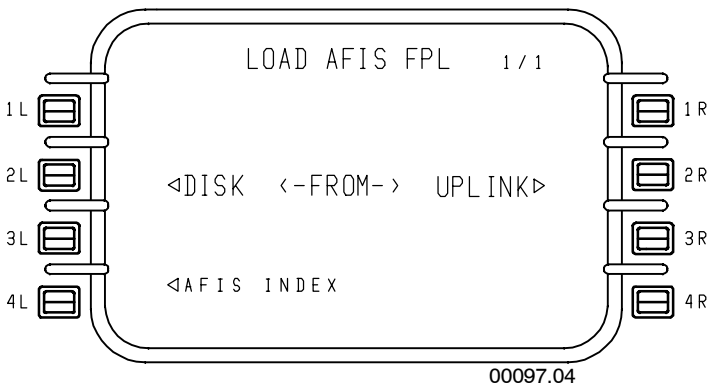

Figure 6-35
- **LOAD AFIS FPL 1/1** - Upon selection of LOAD FLT PLN (1L) on the AFIS INDEX 1/2 page, the LOAD AFIS FPL page is displayed. This is shown in Figure 6-35.